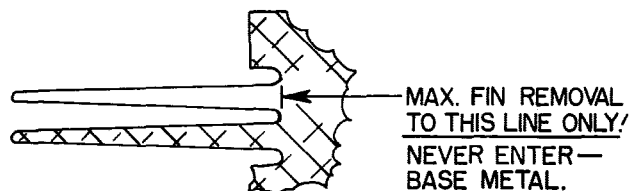

Figure 6-10. Maximum Fin Removal
(1) Stop drilling, a 3/16 inch diameter hole through the end of the crack is permissible providing the end of the crack is at least 1/4 inch from the base of the metal.
(2) Fin removal to eliminate crack and reduce vibrating mass is permitted provided:
- bb. Maximum removal is in accordance with figure 6-10.